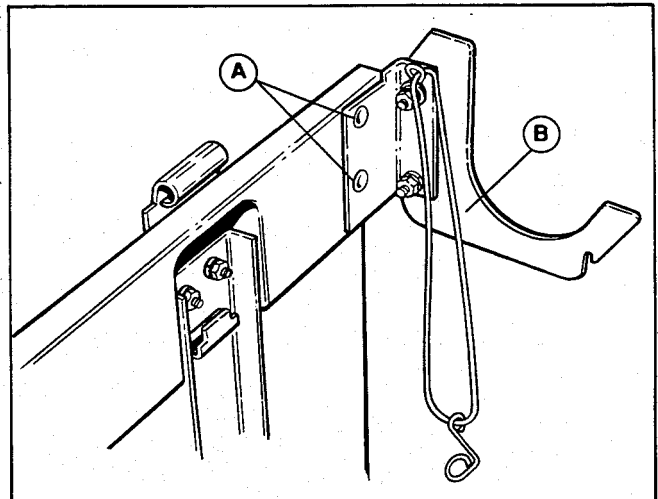

Figure 31.
4. Connect the elbow bracket (B, figure 31) to right-hand rear side of frame by inserting 5/16-18 x 7/8 carriage bolts (A) from rear and the installing 5/16" lockwashers and nuts.